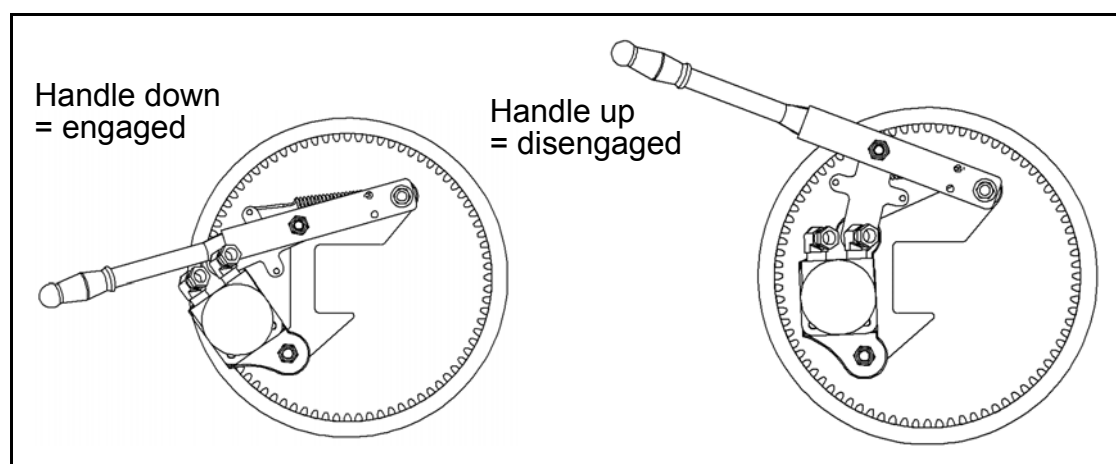

Figure 4.1
5. Before transporting, disengage the over-center handle at each wheel by pulling up on the handle (Figure 4.1).